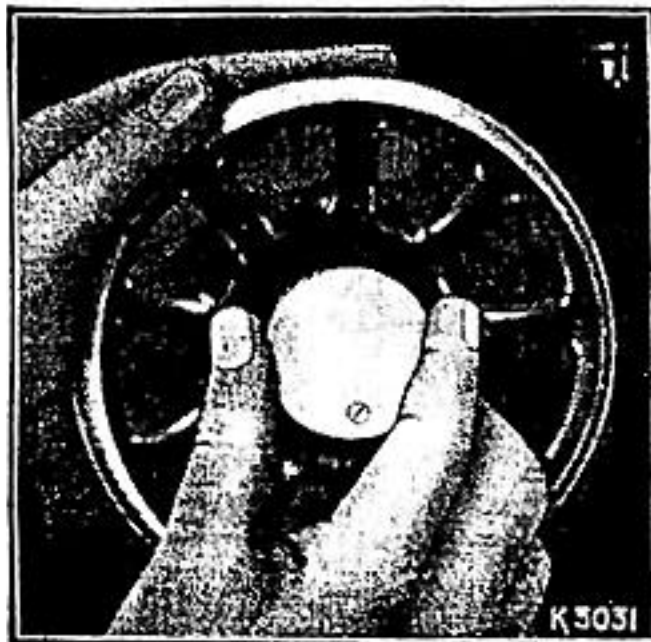
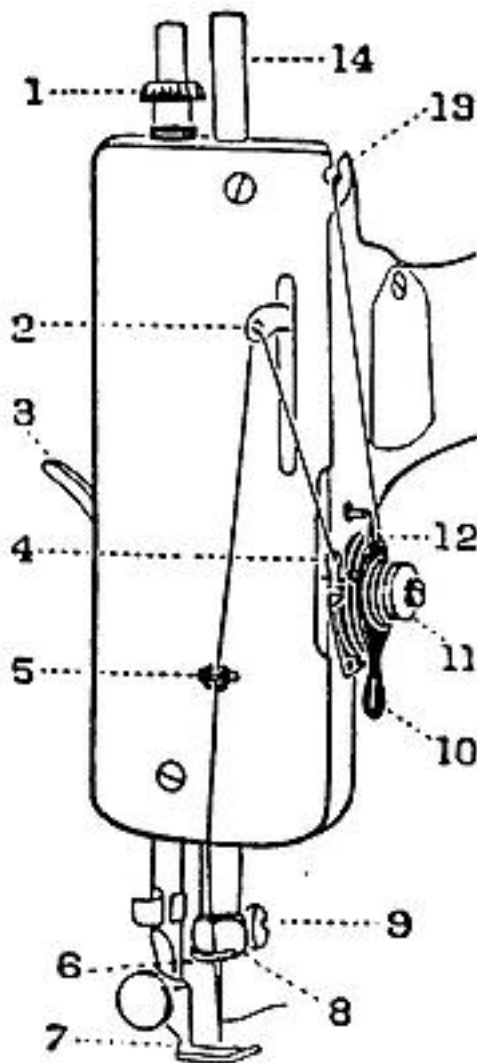
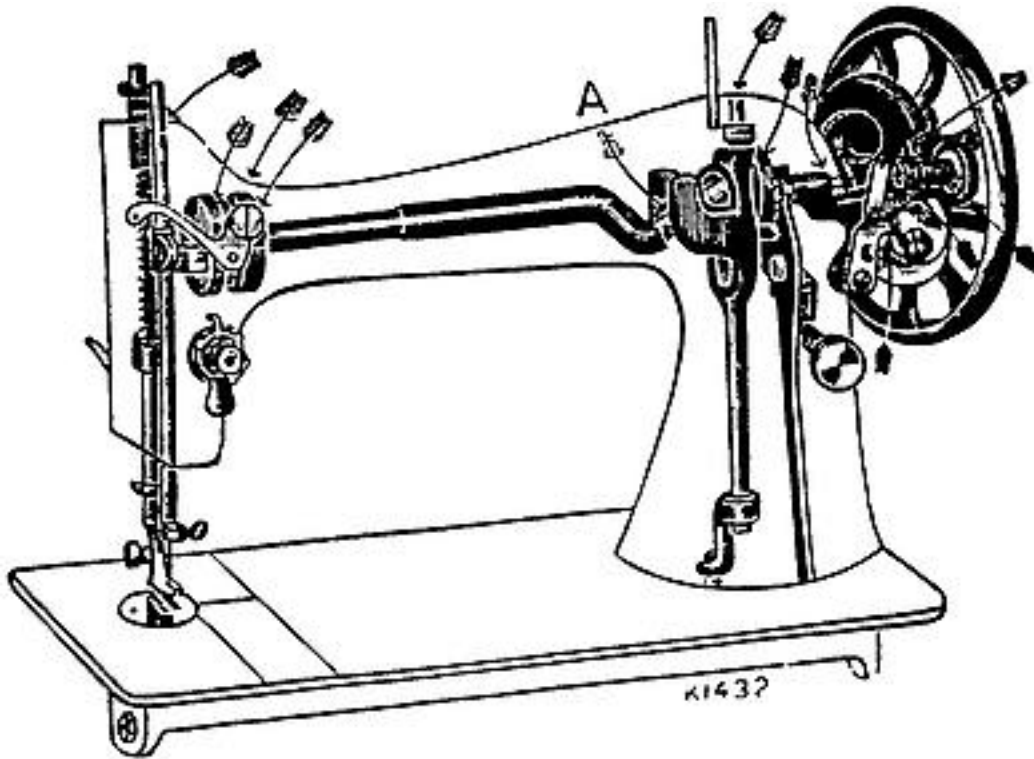

FIG. 3
FIG. 5
FIG. 14
This device allows the hand wheel to run free, so that bobbins may be wound without operating the mechanism. To loosen the wheel hold it with the left hand and with the right hand turn the stop motion screw over towards you, as shown in Fig. 3.
Tighten the hand wheel (see Fig. 3) and place a piece of material under the presser foot (7, Fig. 5). Then lower the latter by means of the lifter (3, Fig. 5). Now turn the handle over from you to work the machine, without its being threaded, until you are accustomed to guiding the material with the left hand.
(See Fig. 5)
Loosen the hand wheel (see Fig. 3) and push the top of the winder from you until its rubber ring (5) just touches the ledge of the hand wheel. Turn the latter over towards you until the thread guide (2) moves to the extreme right. Place a reel of thread on the spool pin; and pass the end of thread through the notch at top of the face plate (13, Fig. 5); then thread the winder by passing the thread upward through the eyelet (1) and into the notch (2). Draw the knob (3) to the left, and place an empty bobbin between the cup at the right (4) and the centre hole at the left. Now clamp the end of thread between the cup and the end of the bobbin, turn the hand wheel towards you and wind by operating the machine as when sewing. When nearly full remove the bobbin by pulling the knob (3) to the left, then withdraw the winder from the ledge of the hand wheel and tighten the latter by turning the stop motion screw from you.
Raise the needle bar to its highest, lift the presser foot (7, Fig. 5), at the same time pressing the tension release (10, Fig. 5) with the thumb of the right hand. Move the material back and to the left, and sever the threads by passing them over the thread cutter above the presser foot. Leave a few inches of thread under and at the back of the presser foot.
For ordinary family sewing it is seldom necessary to change the pressure on the material. If sewing fine silk or flimsy material, lighten the pressure by giving the thumb screw (1, Fig. 5) two or three turns upwards. To increase the pressure, give the thumb screw a few turns downwards.
If used constantly, the machine should be oiled daily, while with moderate use, an occasional oiling is sufficient. A drop of oil applied at the points indicated by arrows in Figs. 14 and 15 is sufficient. The small plate in front of the machine and the larger plate at the back should both be turned up and oil applied to the parts exposed. It is important that oil be applied to point "A," Fig. 14, when the take-up lever (2, Fig. 5) is at its lowest, and a little oil rubbed over the surface of the shuttle race. There are also two holes in the hand attachment to which oil should be applied occasionally. When oiling, insert the oil can spout well into the holes.
The thread take-up spring (4, Fig. 5) is not broken.
See that the spring (4, Fig. 5) is not broken, that the upper and under tensions are equal, that both shuttle and needle are properly threaded, that the thread is of good quality and of correct size for the needle (see table on inside of back cover).